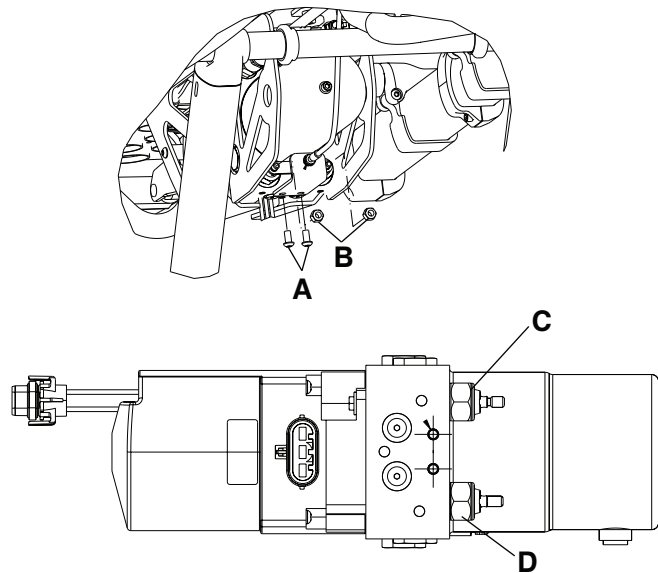

Figure 12 – Hydraulic manual release valve
3. Using a T27 Torx driver, remove the two button head cap screws (A) that secure the manual release cable bracket to the bottom of the hydraulic subassembly (Figure 12).
5. Using a 7/16" combination wrench, remove the Nylock hex nut (B) from each of the valve stems (Figure 12).
6. Using a 7/8" hex wrench, remove the valve (C or D) to be replaced (Figure 12).